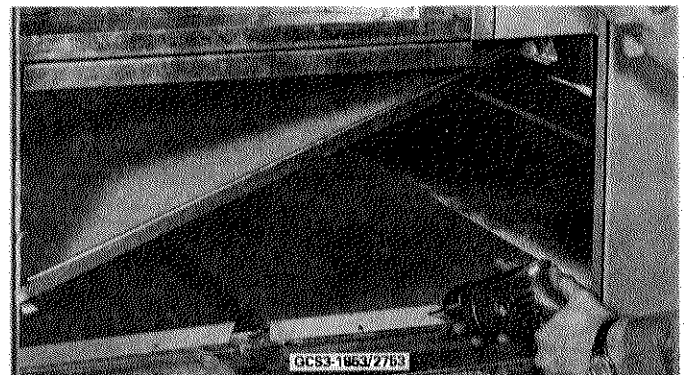

FIGURE 5
- 5—1853 And 2753 Units Only—Remove the supply and return air panels from end of unit and install over openings in base of unit. Drill holes and secure in place with sheet metal screws. See Figure 5.